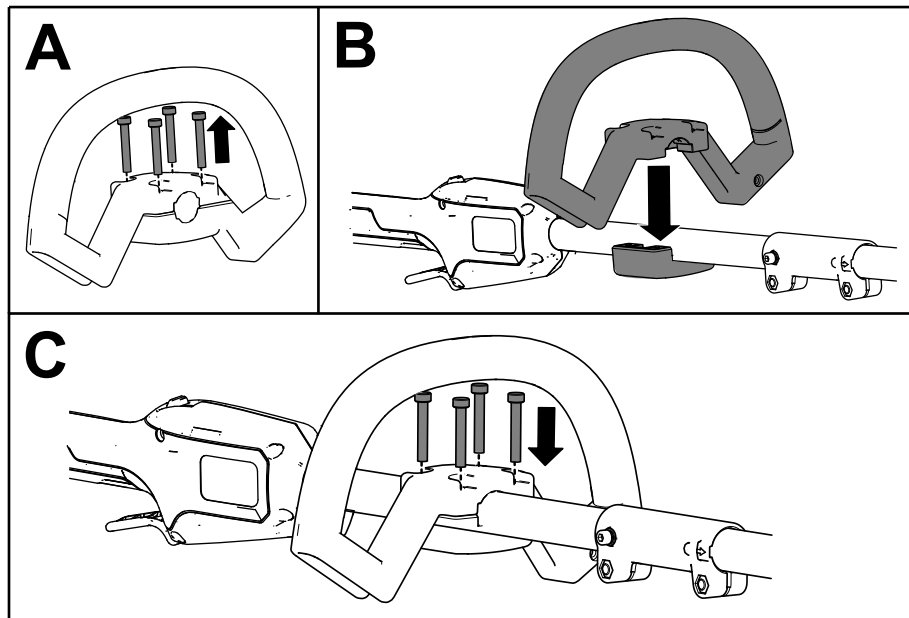

Figure 4
1. Separate the auxiliary handle from the handle plate by removing the 4 socket head screws using the provided Allen wrench (A of Figure 4).
2. Line up the auxiliary handle with auxiliary handle plate on the shaft (B of Figure 4).
3. Secure the auxiliary handle to the handle plate with the 4 socket head screws previously removed (C of Figure 4).